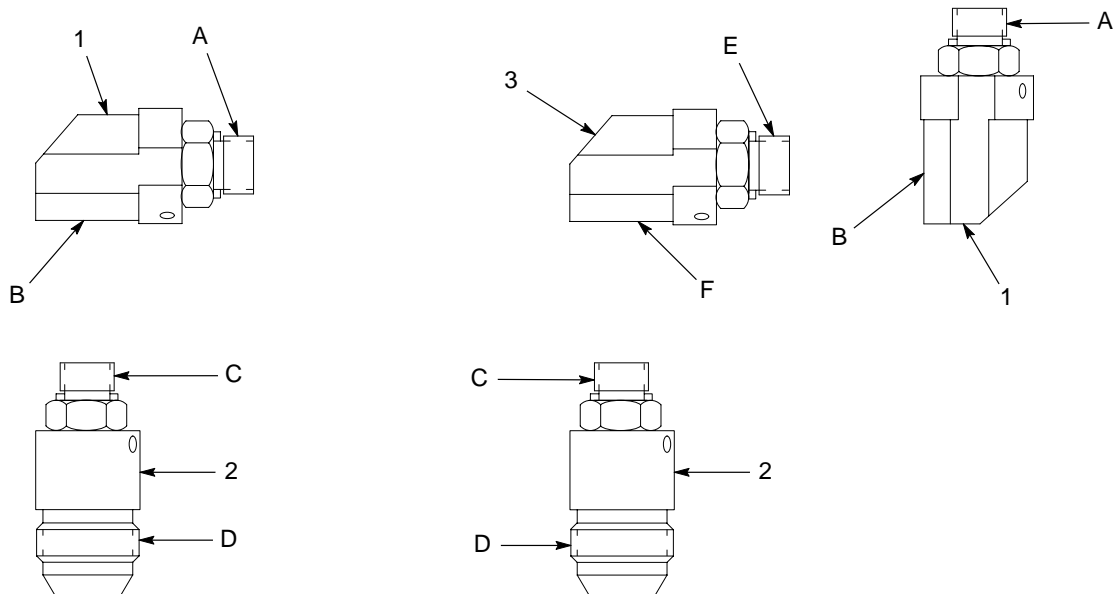

Figure 3 Large Swivels—Typical Combinations
1. See Figure 3 and refer to Table 4. Choose one elbow swivel (1) as the basis for your assembly.
2. Add one straight swivel (2) to the elbow to create a two-plane assembly or add an elbow swivel (3) and a straight swivel (2) to create a three-plane assembly.
B: This large straight swivel can only be used as a single swivel and cannot be used to configure two- and three-plane assemblies. Use item 2 (Figure 3) for reference only — this swivel cannot be joined with an elbow.